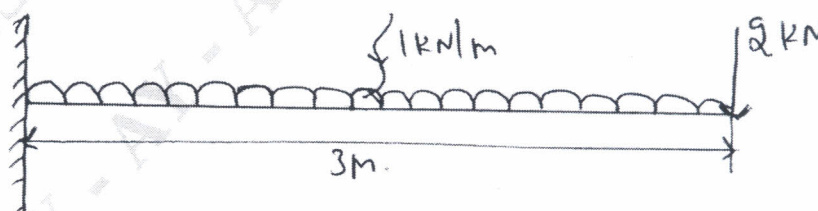

Fig.Q.8(b)
- b. A cantilever is loaded as shown in Fig.Q.8(b). Determine the slope and deflection at the free end. Take,  $E = 200 \text{ GPa}$  and  $I = 10^{-4} \text{ m}^4$ . (10 Marks)